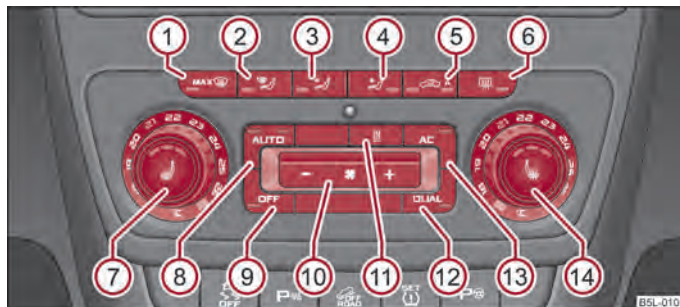

Fig. 92 Climatronic: Control elements
- Press the button (AUTO) ⇒ fig. 92.
- Press the button (AC) ⇒ fig. 92. The warning light lights up in the button.
- When you again press the switch (AC), the cooling system is switched off. The warning light in the button goes out. Only the function of the ventilation remains active when no lower temperature than the outside temperature can be reached.
- You can set the temperature for both sides after switching on the ignition with the control dial ⑦ ⇒ fig. 92.
- If you wish to set the temperature for the right side, turn the control dial ⑭. The warning light in the button (DUAL) lights up, this indicates that differing temperatures for the left and right side can be set.
- If the windscreen mists up, press the button   ⇒ fig. 92. After the windscreen has been demisted, press the button .
- Press the button  ⇒ fig. 92.